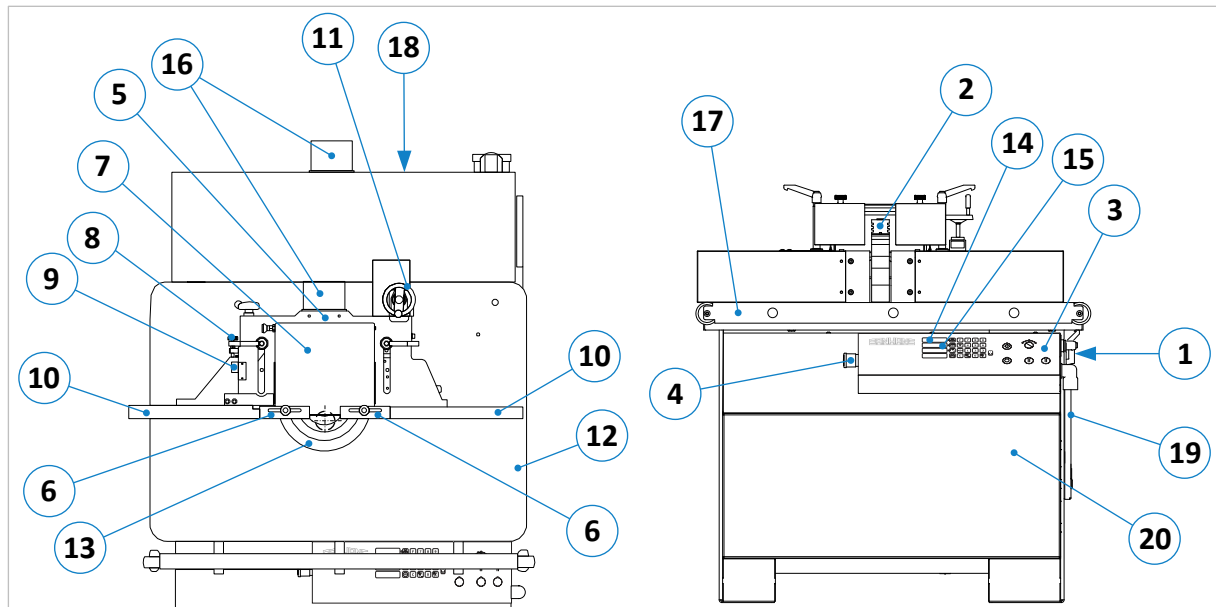

Figure 11: Components and Control Elements
In case of danger or malfunctions during operation, the machine can be stopped quickly and reliably by pressing the emergency stop button (4) on the control panel (see ⇒ Figure 11).